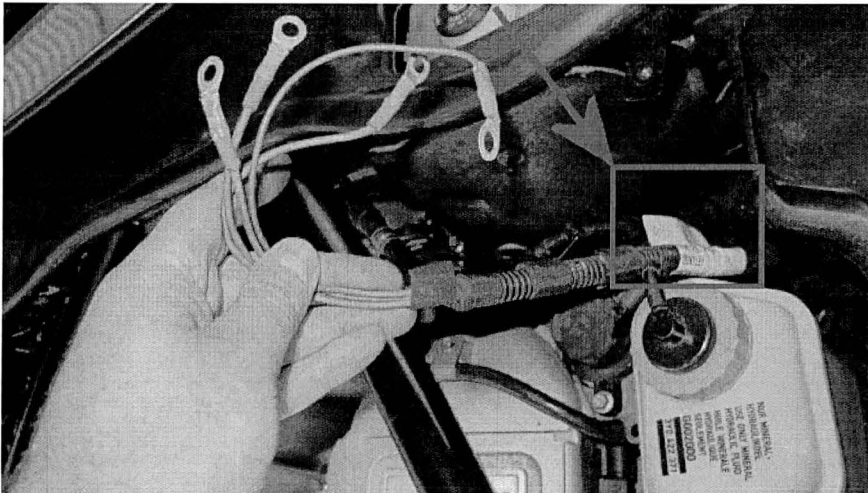

Figure 10
- Manoeuvre the earth leads from under the fusebox as Figure 10